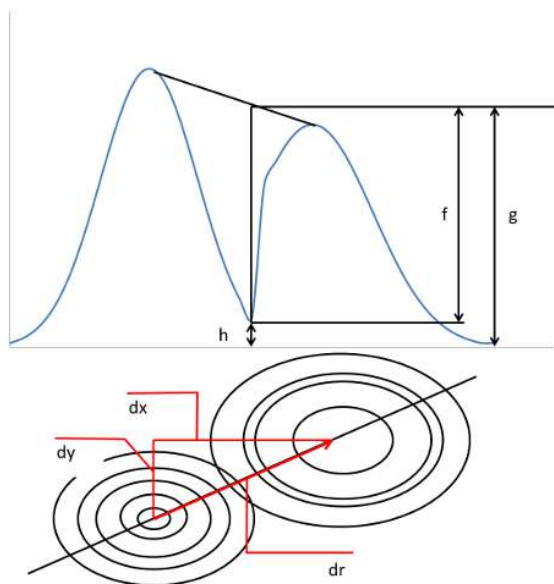

Figure 238: Diagram of ²D resolution measurement: Slice for resolution (top) and 2-dimensional contour plot (bottom)
- Resolution of a pair of peaks in the two-dimensional space is related to the resolution on the first and second dimensions as the Pythagorean average (see Figure 238 on page 427)